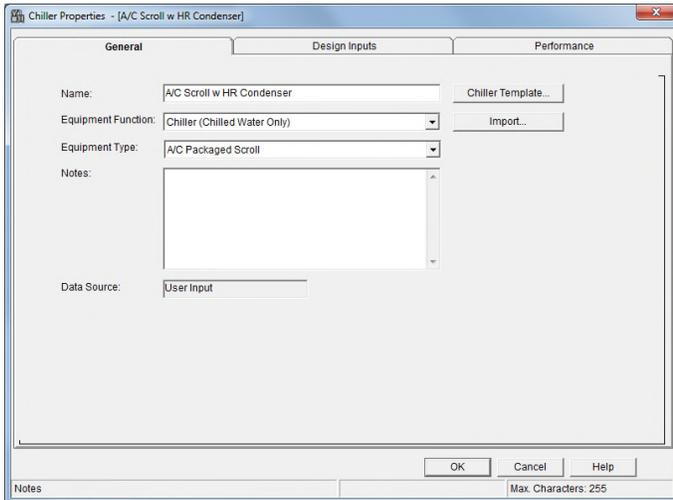

Figure 4.
- On the General Tab (Figure 4), first select Equipment Function as “Chiller (chilled water only)”. The “chilled water only” note refers to the primary function of the machine, but as we’ll see in a moment it does not prevent you from specifying heat recovery features to produce hot water at the same time. Also select an air-cooled chiller type. The example in Figure 4 uses an air-cooled packaged scroll chiller.